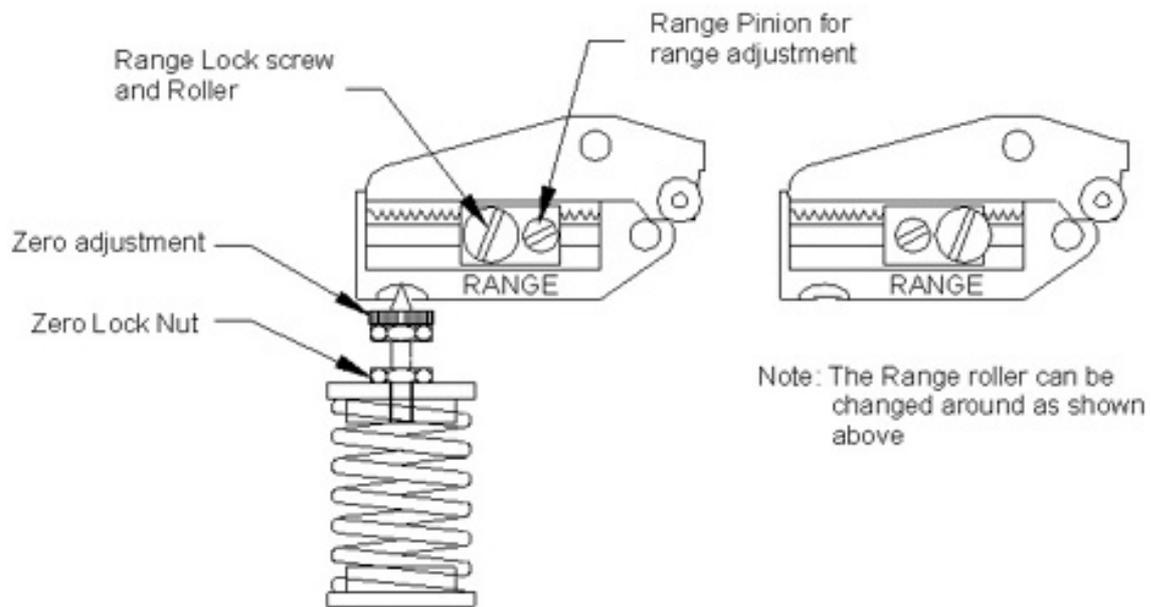

Figure 6 : Range setting
- 3.2.7 If necessary, in order to increase the range, the range roller assembly can be removed and turned around. See figure 6.